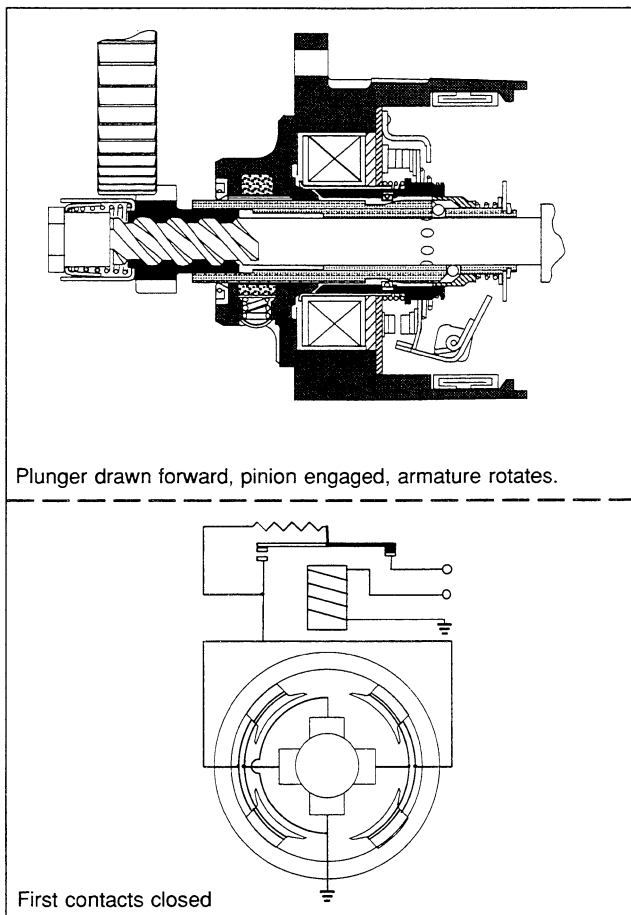

Fig. 3 Engaging Position
1.2.2 Engaging position (see fig. 3)